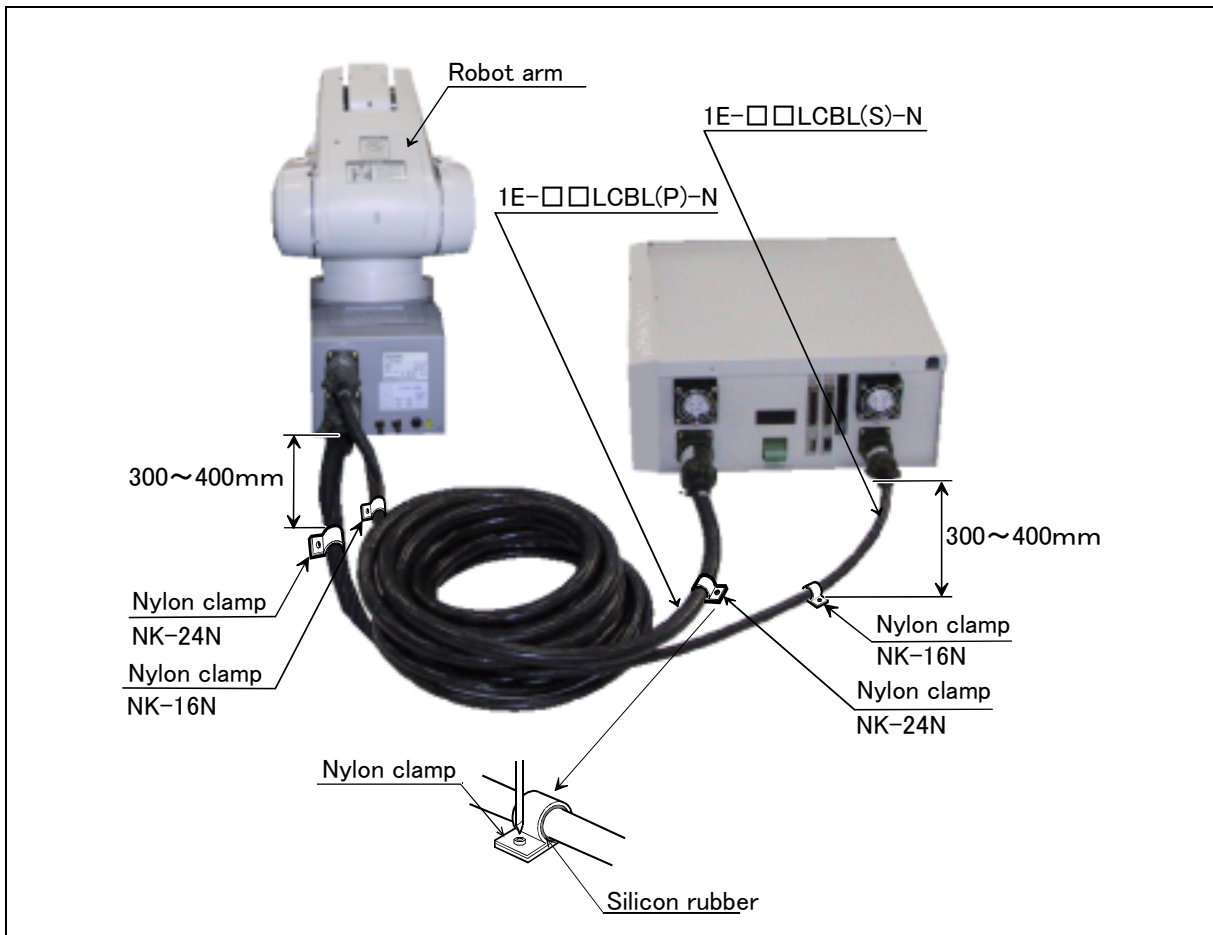

Fig.2-25 : Fixing the flexible cable
- (1) Connect the connector to the robot arm and controller.
- (2) Wind the silicon rubber around the cable at a position 300 to 400 mm from the robot arm and controller as shown in Fig. 2-25, and fix with the nylon clamp to protect the cable from external stress.